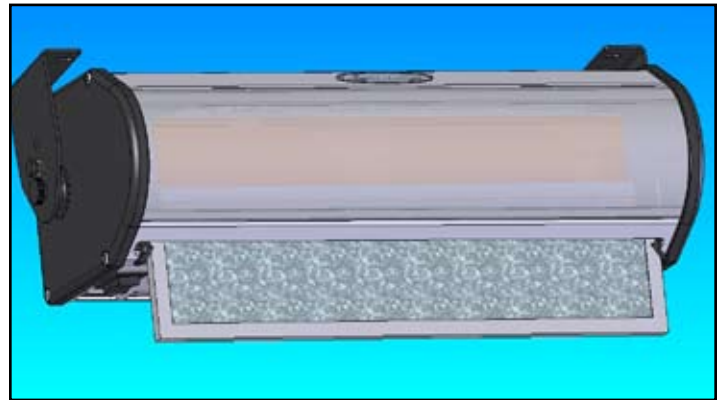

FIGURE 4 -Filter Removal
This unit is equipped with a "No Tool" filter removal. Simply, pull the (2) black tabs, located underneath the intake grille, outward. This action releases the filter which then can be pulled downward out of the unit (See Figure 4).